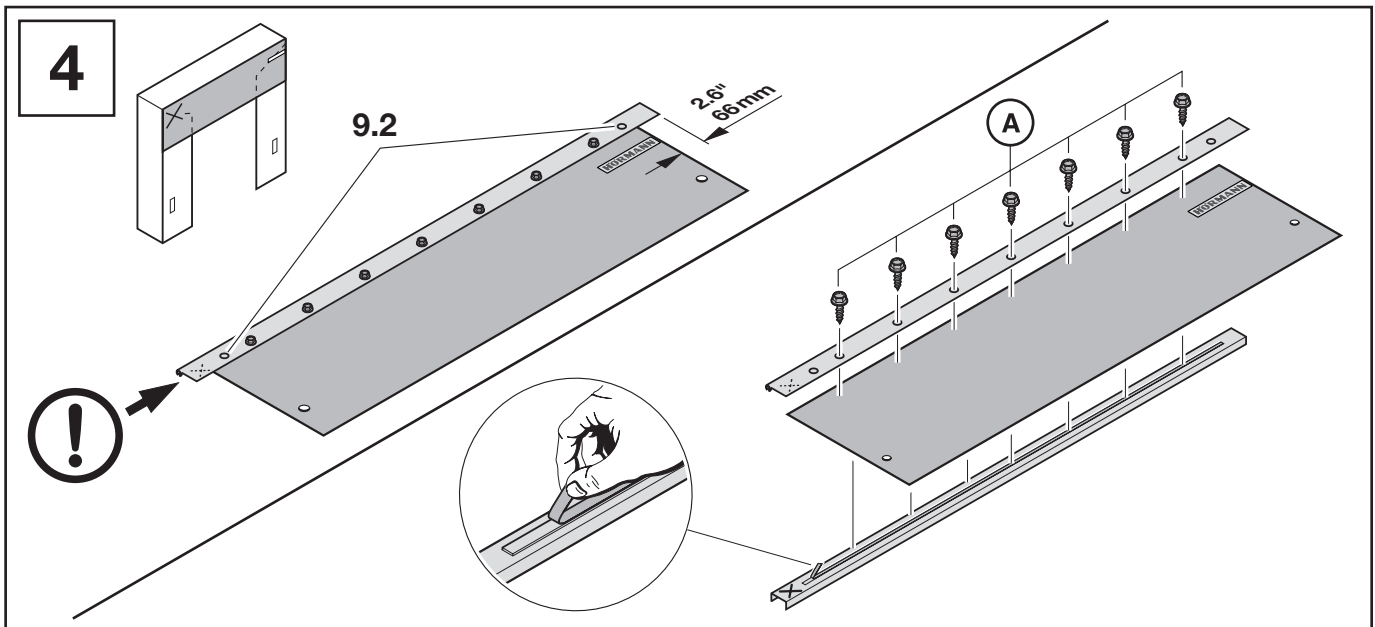

Figure 5
* Equipment may deviate, see figure 5.